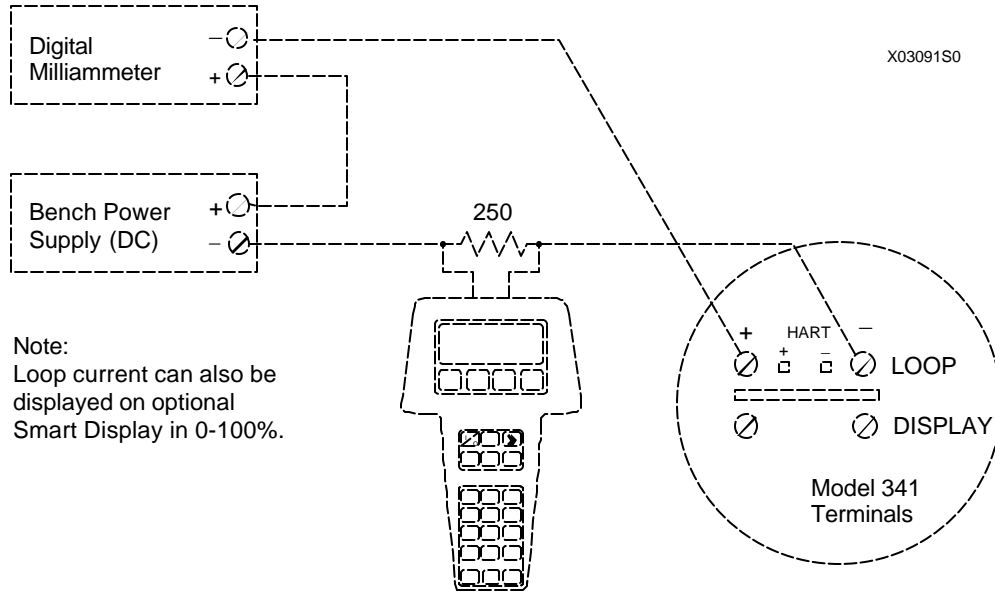

FIGURE 7-1 Bench Test Connections
Recommended test equipment is listed in Section 7.1.1 and typical wiring diagrams are shown in Figures 7-1 and 7-2.
3. Connect the HART Communicator and DMM to the loop as shown in either Figure 7-1 or 7-2. Set the DMM to measure 4-20 mA.